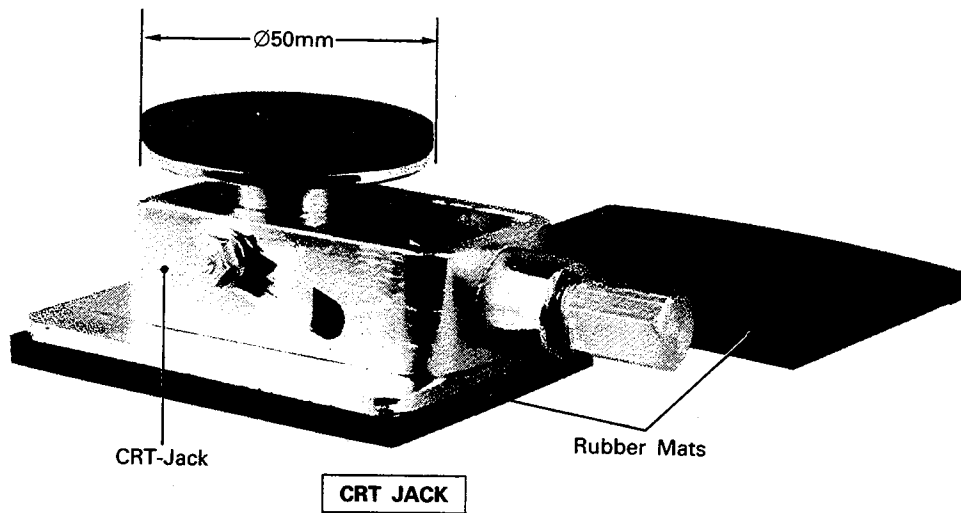

Figure 2
2. CRT-JACK-Part #859C35801 (Figure 2).